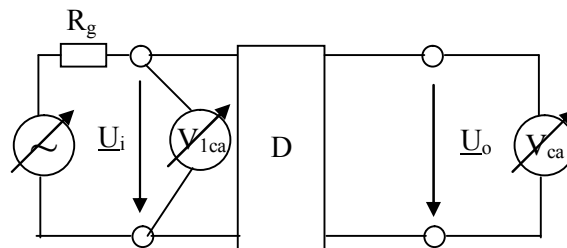

Figure 3: Measurement assembly used for amplitude characteristic.
b) Build the circuit (low pass filter) on the solderless breadboard (see Lab 3 for how the holes of the test board are interconnected). Figure 3 shows the way you should connect measurement devices and the generator. Block D on the figure is the measured circuit. Measure the input signal using the digital multimeter. Measure the output signal with the analog AC millivoltmeter.